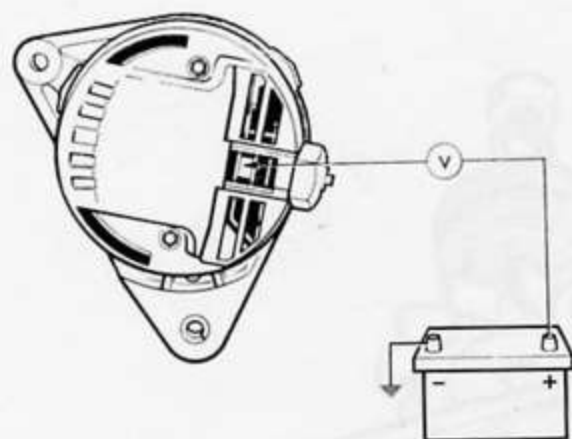

Fig. 67
A one-piece connector now connects the remaining two wires to the rear of the alternator (Figs. 67 and 68), these being from the warning light and the starter solenoid.
- (i) Connect the voltmeter red lead to the alternator main (+) terminal, black lead to battery (+) terminal (see Fig. 67).